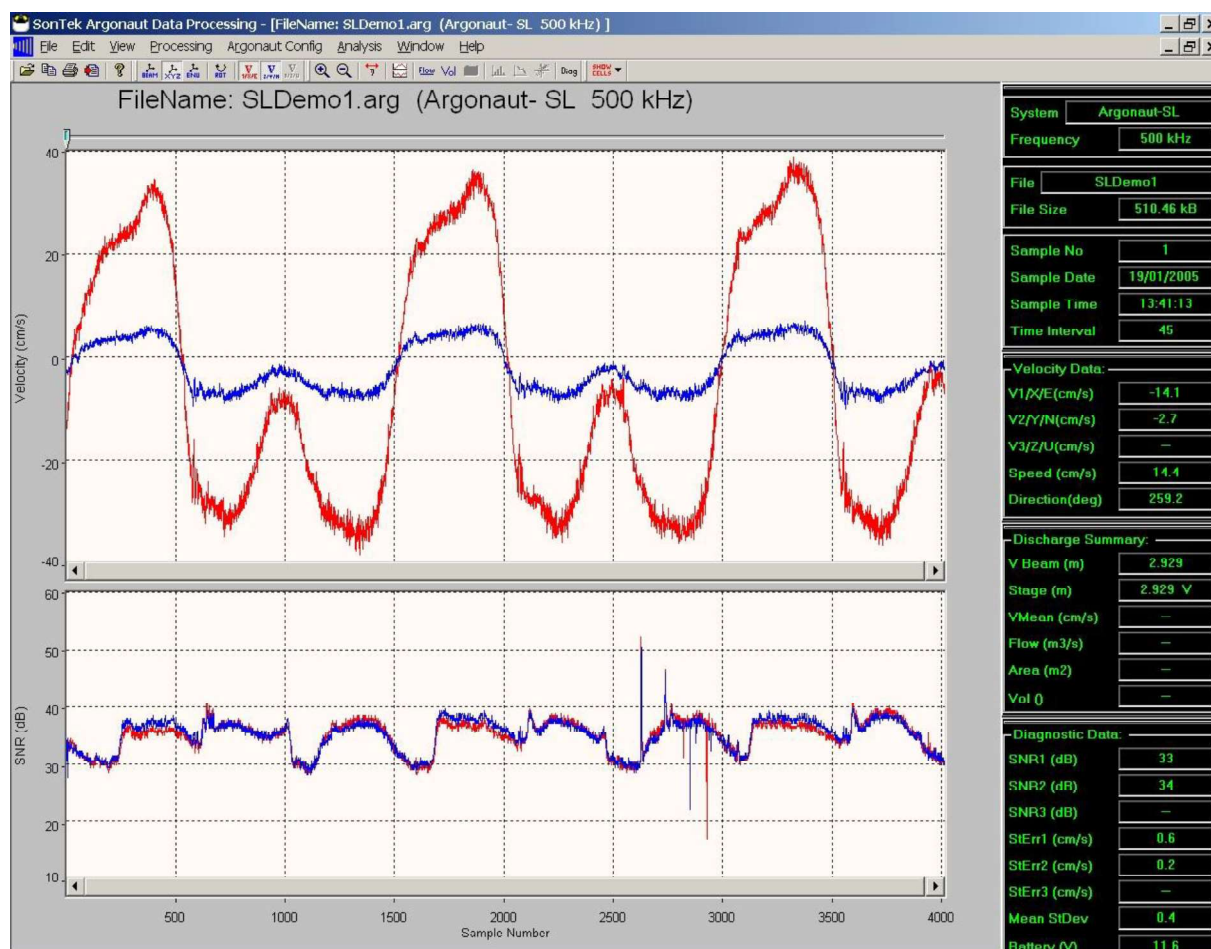

Figure 6-3. Sample Data File 1 (SLDemo1.arg) – Velocity and SNR
The `SLDemo1.arg` data file represents three days of data collected with a 500-kHz SL in a large, tidally influenced river. The data set has slightly more than five tidal cycles. **Figure 6-3** shows plots of velocity (top graph) and SNR (bottom graph) over the 3-day deployment.
- The SNR data for Beams 1 and 2 (Figure 6-3, red and blue lines, bottom graph) are typically very close together, and show reasonable (5-10 dB) fluctuations over the course of the file.
- The spikes correspond to upward spikes seen in the SNR data (**Figure 6-3**).
- No anomalies or unusual behavior in velocity is seen at these samples in **Figure 6-3**, indicating that whatever caused the change in signal strength did not significantly affect the velocity measurement.
- These upward spikes in noise level correspond to downward spikes in SNR (**Figure 6-3**) seen at the same samples. Recall that SNR is calculated as signal strength minus noise level; as such, an increase in noise level causes a decrease in SNR.